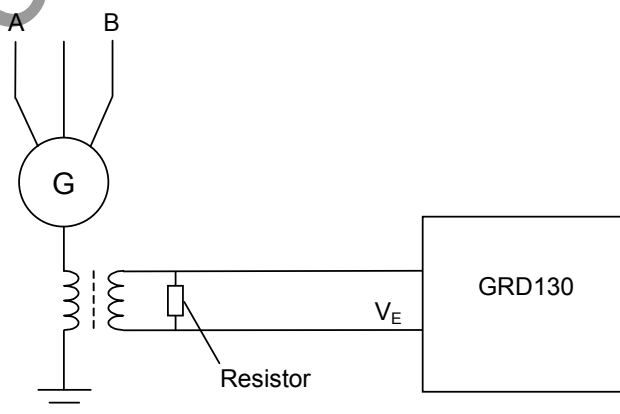

Figure 2.3.2 Earth Fault Detection on Generator
- Measuring the residual voltage across the earthing transformers as shown in Figure 2.3.2.
Figure 2.3.2 shows the scheme logic of the negative sequence overvoltage protection. Two negative sequence overvoltage elements NPS1 and NPS2 with independent thresholds output trip signal NPS1 TRIP and alarm signal NPS2 ALARM.